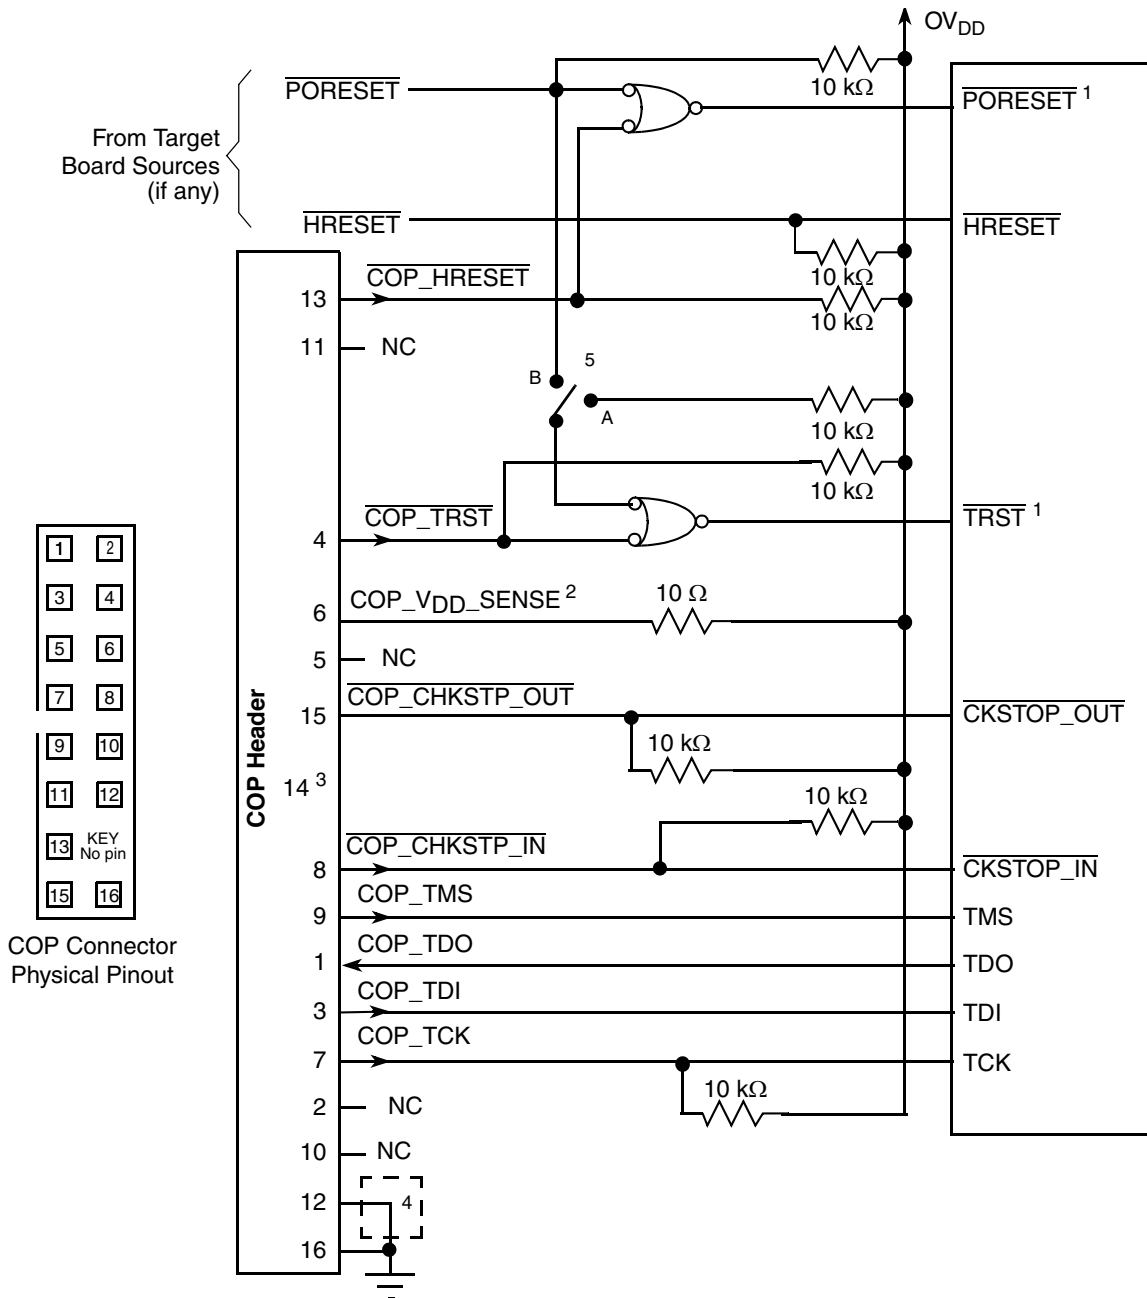

Figure 7. JTAG Interface Connection
Correct operation of the JTAG interface requires configuration of a group of system control pins as demonstrated in Figure 7. Care must be taken to ensure that these pins are maintained at a valid negated state under normal operating conditions as most have asynchronous behavior and spurious assertion give unpredictable results.
The arrangement shown in Figure 7 allows the COP port to assert  $\overline{\text{PORESET}}$  and  $\overline{\text{TRST}}$  independently, while ensuring that the target can drive  $\overline{\text{PORESET}}$  as well.
- $\overline{\text{TRST}}$  should be tied to  $\overline{\text{PORESET}}$  through a 0 k $\Omega$  isolation resistor so that it is asserted when the system reset signal ( $\overline{\text{PORESET}}$ ) is asserted, ensuring that the JTAG scan chain is initialized during the power-on reset flow. Freescale recommends that the COP header be designed into the system as shown in Figure 7. If this is not possible, the isolation resistor allows future access to  $\overline{\text{TRST}}$  in case a JTAG interface may need to be wired onto the system in future debug situations.